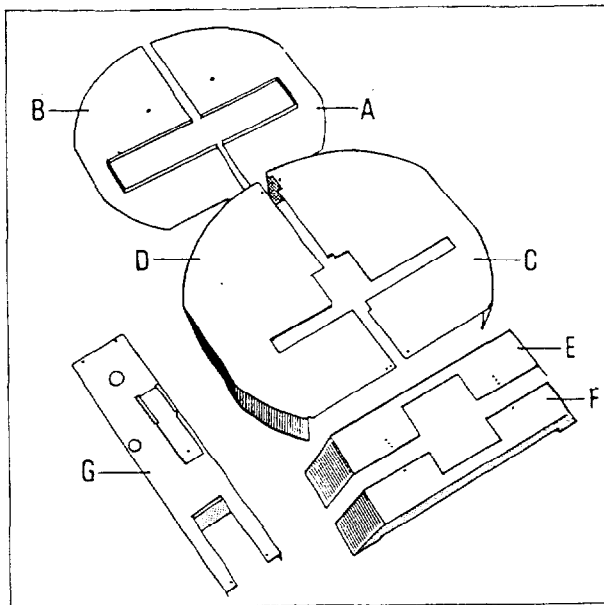
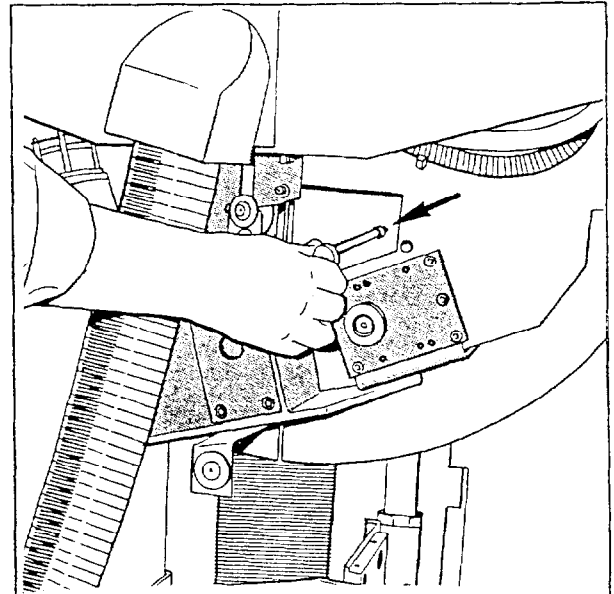
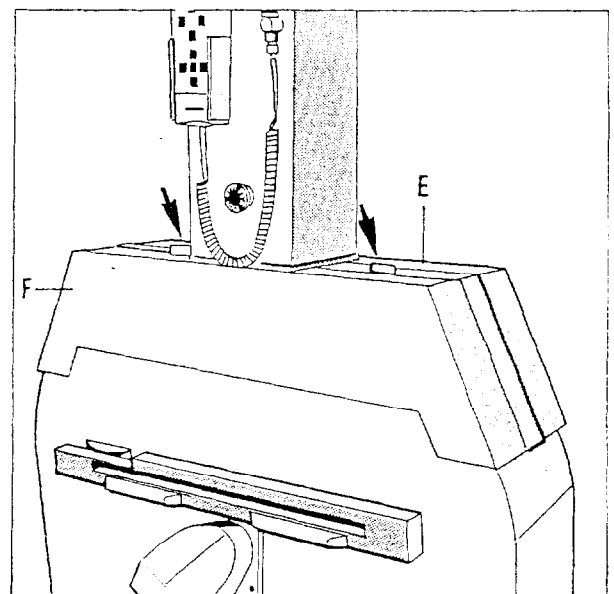

Fig. 2
Fig. 7
Fig. 8
- Set the cover panels of both the swivel frame A to F and tube assy support arm G to H aside (Fig.2) and unscrew the inserted screws, if necessary.
- Attach the rear cover panel G of the tube assy support arm (Fig.2/3).
- Attach cover panels A and B from the rear with the previously loosened Allen screws (↘/Fig.7)
- Insert the two cover panels C and D (Fig.2) in the swivel frame on the rear, screw them together with the enclosed bracket, above (↗/Fig.7) and fasten with the round plastic connector, below (↙/Fig.7).
- Attach the covers E and F (Fig.2/8) to the top of the swivel frame and fasten with the enclosed plastic connectors (↘/Fig.8).